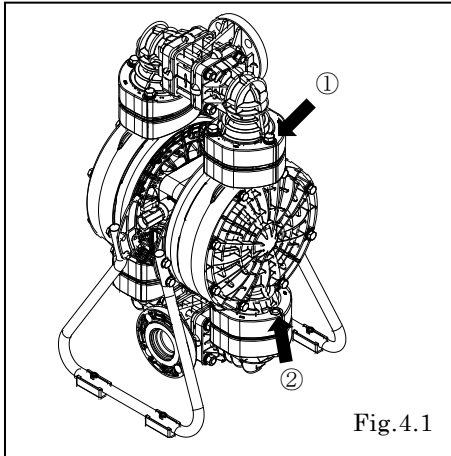

Fig.4.1
- Remove the Silencer. [Fig.4.1]
- Remove the 6 retainer bolts "2" from the in manifold, and remove the protector and in manifold. [Fig.4.1]